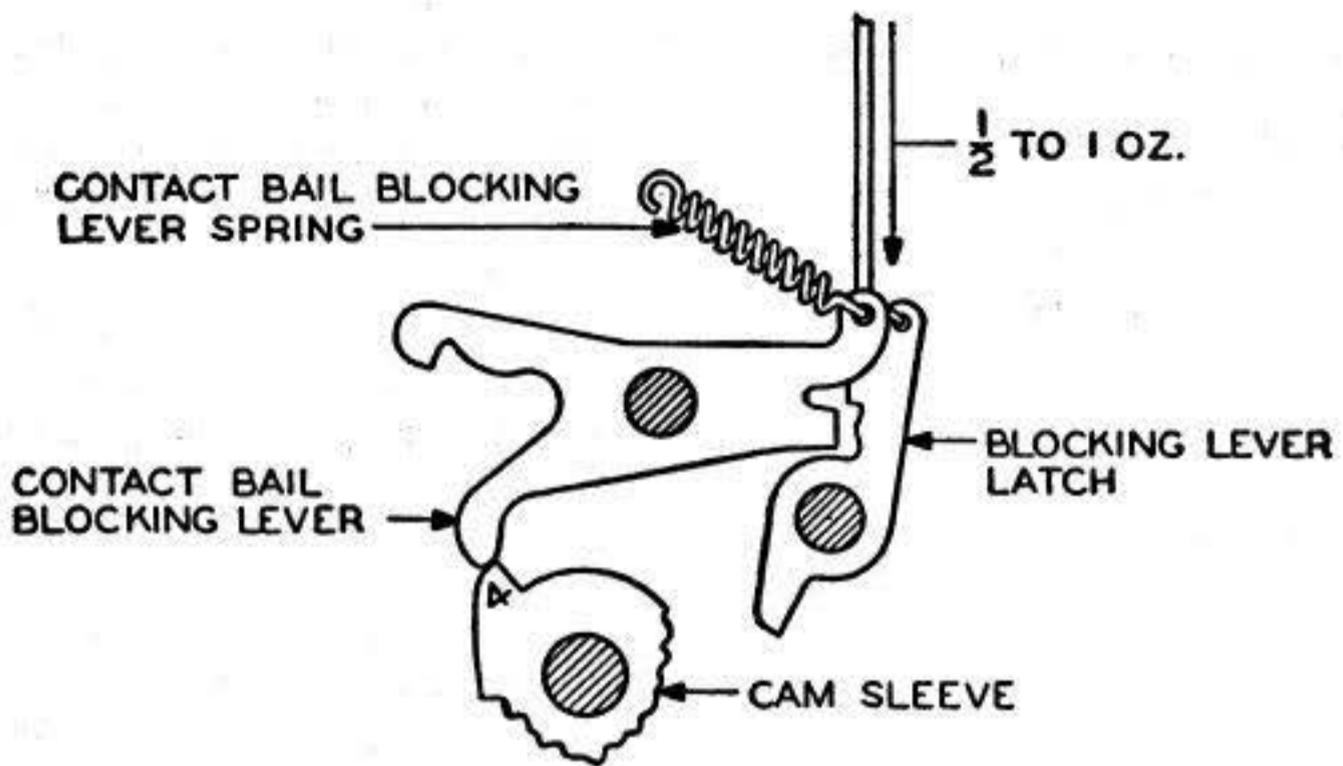

Fig 35
4.06 **Contact-Bail Blocking-Lever Spring:** It should require Min $\frac{1}{2}$ oz, Max 1 oz, to just start the lever moving. **Fig 35**